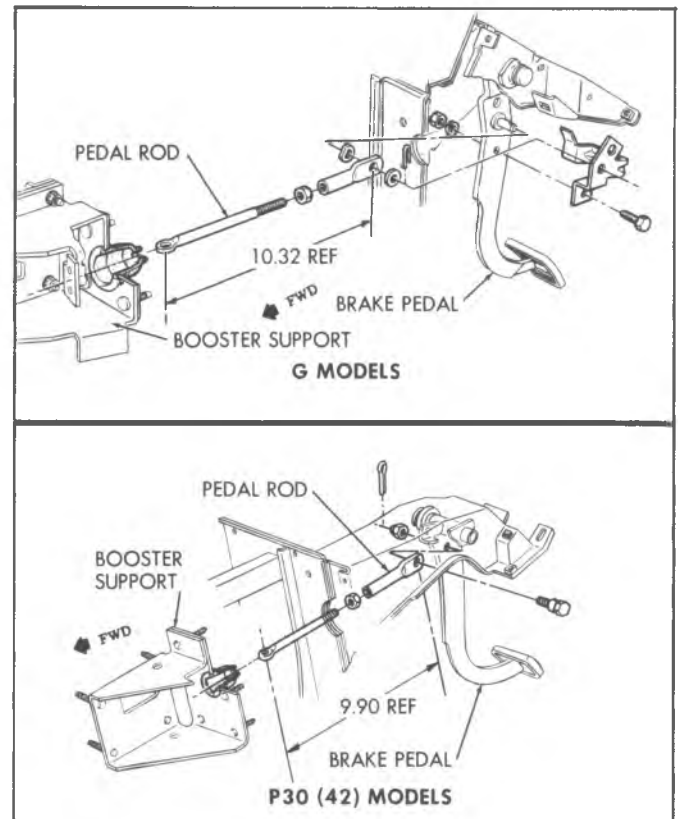

Fig. 95--Brake Pedal Adjustment--P30(42) and G Models
1. Adjust the pedal rod to the length shown in Figure 95 and install in the vehicle.
#### Replacement (Fig. 95)